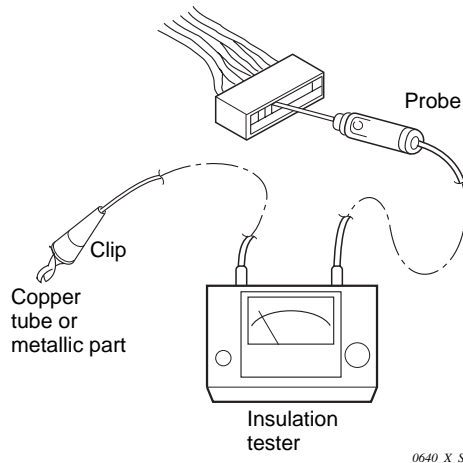

Fig. IV-16
- Disconnect the connector of the desired electric part from terminal plate, P.C.B. Ass'y, etc. (Fig. IV-16)